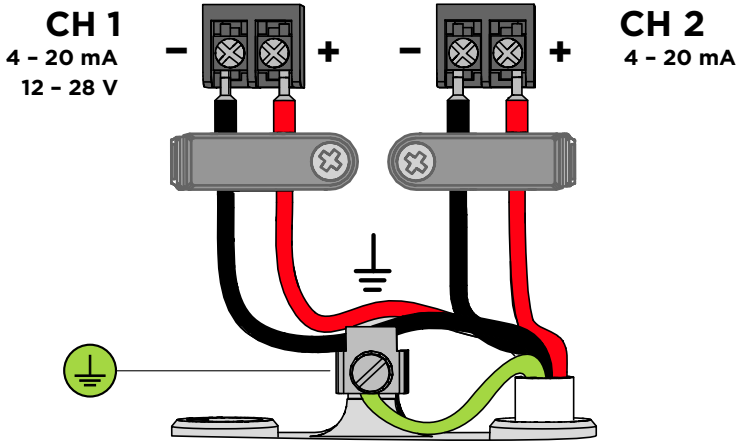

Figure 19 Wiring example using one cable
- b. Connect the wires to the screw terminals: for an example, see Figure 19 \(page 39\).